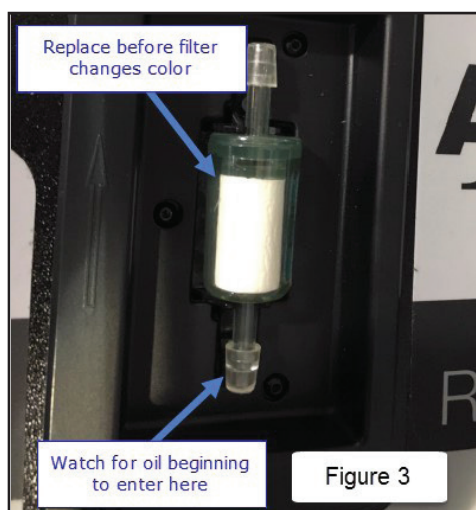
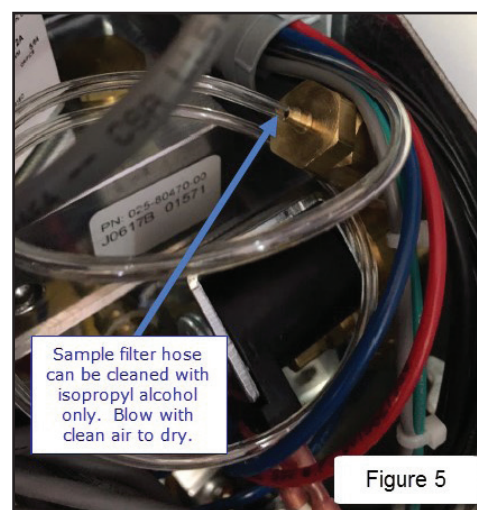

Figure 3
Figure 5
- See Figure 3 and 4. Replacing the white sample filter and hose on the refrigerant identifier if oil is present. Sample hose and brass restrictor can be cleaned with isopropyl alcohol as shown in Figure 5.